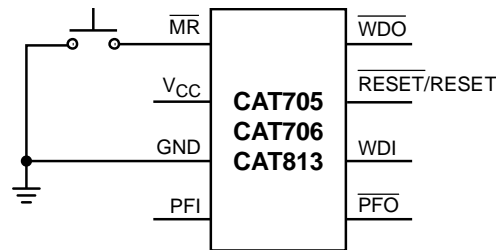
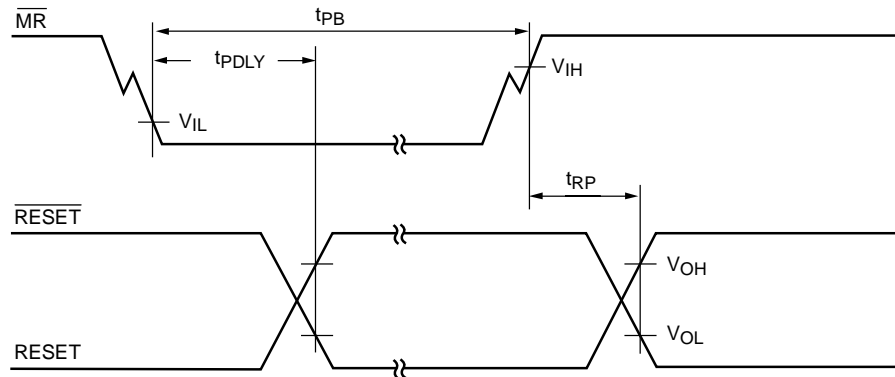

Figure 1. Pushbutton RESET
Figure 2. Timing Diagram – Pushbutton RESET
The CAT705, CAT706 & CAT813 each have a Manual Reset (MR) input to allow for alternative control of the reset outputs. The MR input is designed for direct connection to a pushbutton (see Figure 1). The MR input is internally pulled up by 52k $\Omega$  resistor and must be pulled low to cause the reset output to go active. Internally, this input is debounced and timed such that RESET (or RESET) signals of at least 140ms minimum will be generated. The min 140ms  $t_{RP}$  delay commences as the Manual Reset input is released from the low level. (see Figure 2)